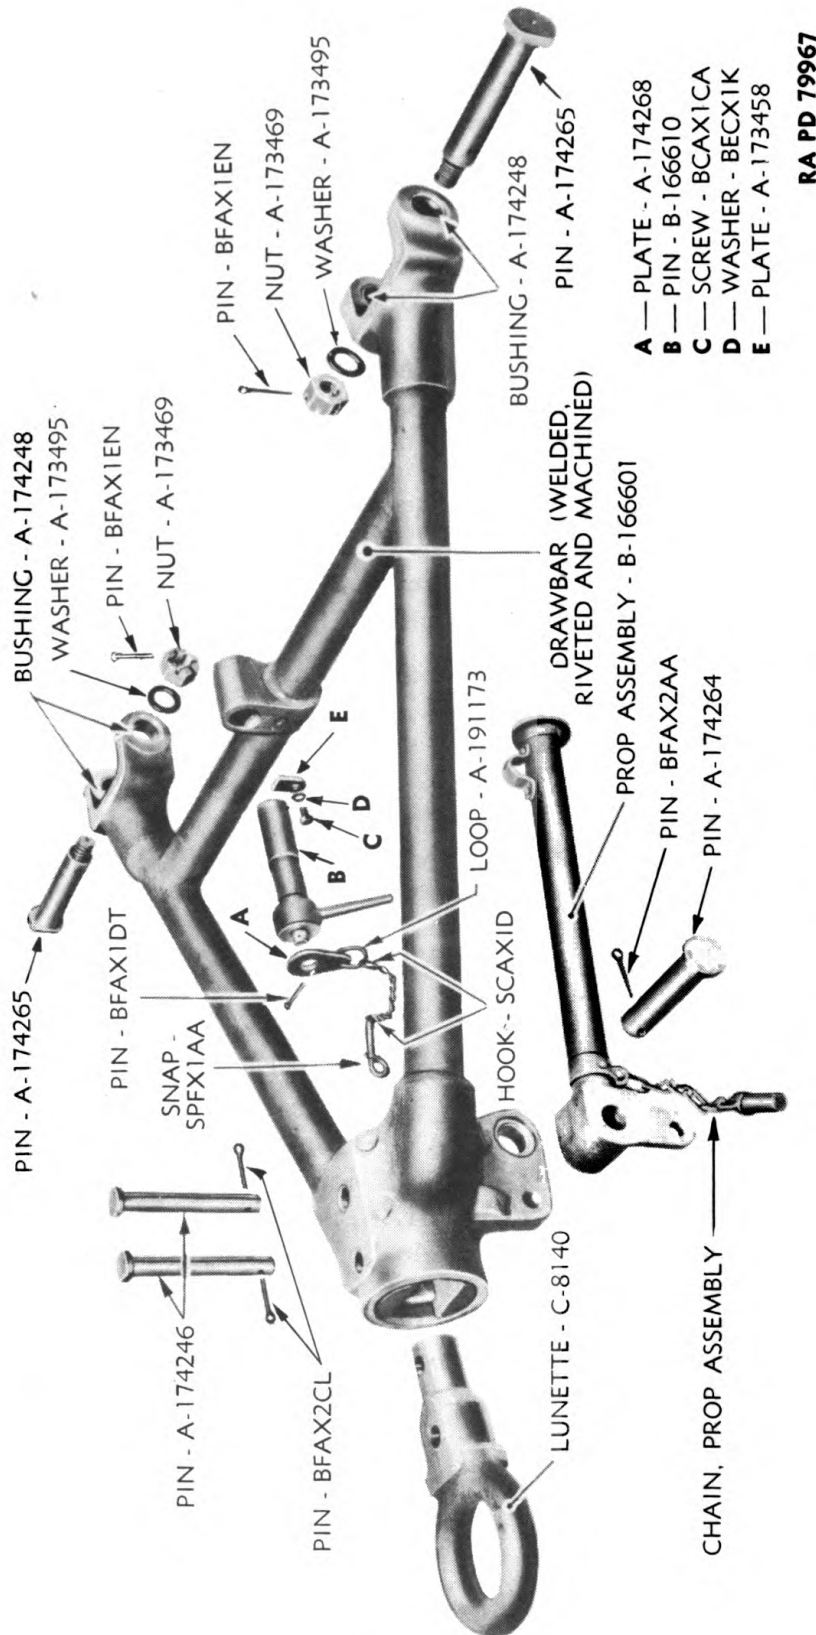
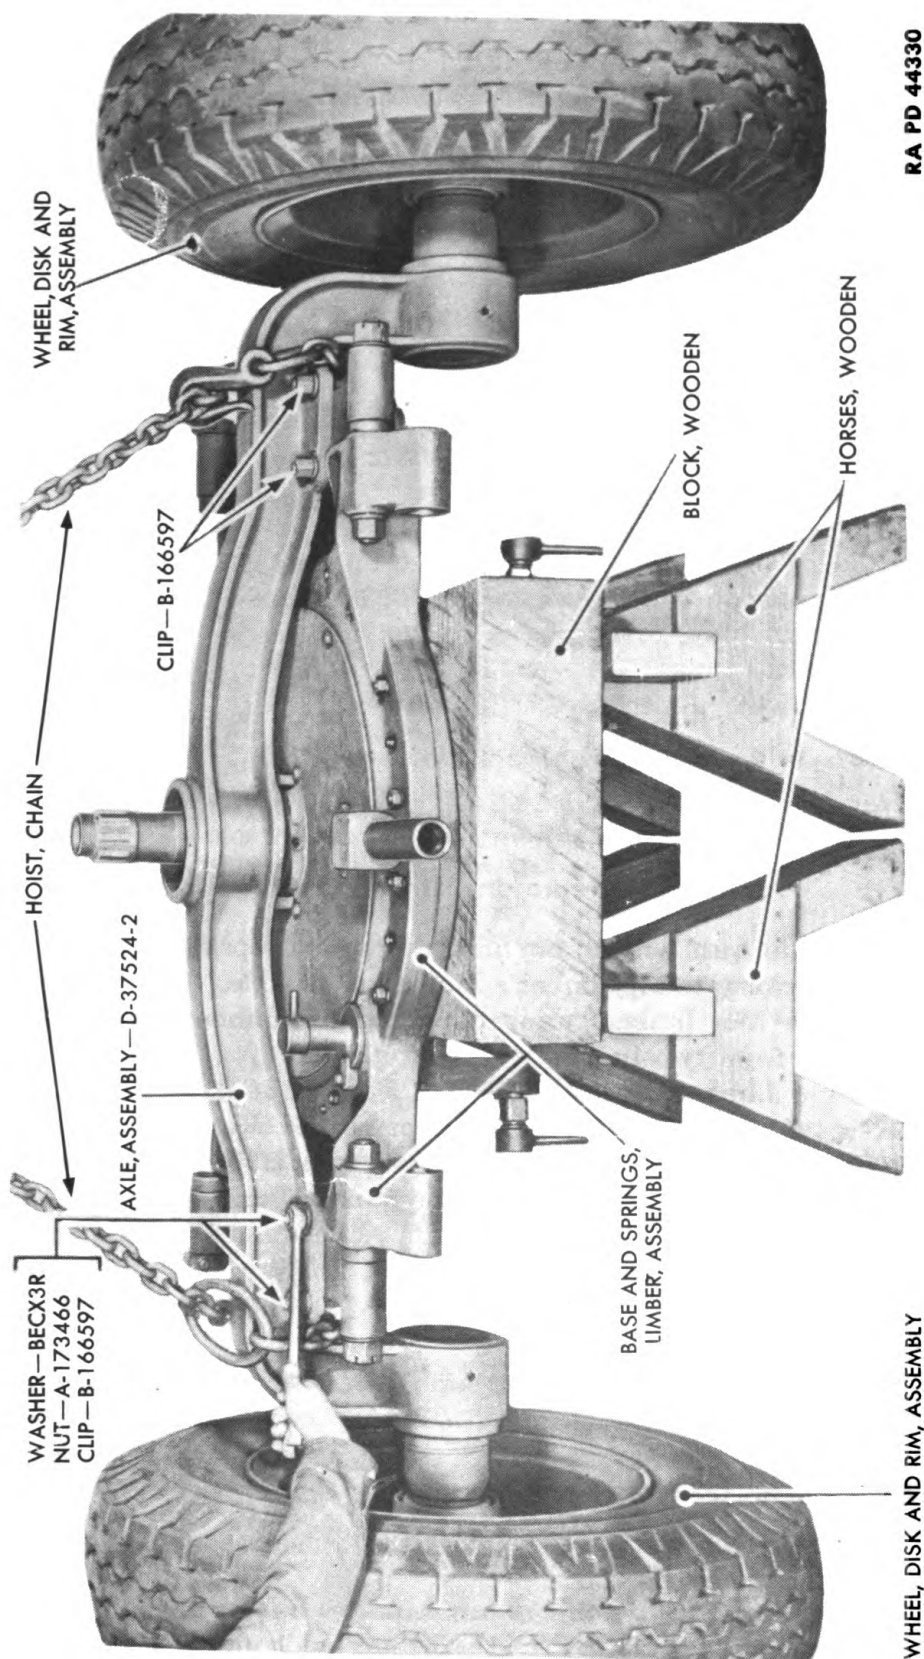

Figure 323—Drawbar Parts
Figure 324 — Removing Axle Assembly from Limber Base
(6) Hold or block the drawbar to prevent its falling and repeat operation on opposite drawbar hinge pin. **NOTE:** There are two types of drawbar hinge pins used; one is drilled for lubrication and the other is not.
(7) Lift drawbar assembly C73285 off limber base.
g. Disassemble Drawbar Assembly (fig. 323).
(1) Remove cotter pin BFAX2AA that holds prop hinge pin A174264. Drive prop hinge pin out of drawbar and lift off prop assembly B166601. **NOTE:** Prop foot piece and prop handle are riveted to prop. The chain clamp is riveted to prop, and prop chain B166609 with prop chain pin are riveted to chain clamp.
(2) Remove two cotter pins BFAX2CL that hold two lunette pins A174246 in drawbar. Drive out two lunette pins. Loosen and remove lunette C8140.
(3) Remove cap screw BCAX1CA and lock washer BECX1K that hold locking pin plate A173458 to drawbar.
(4) Remove cotter pin BFAX1DT that holds plate A174268 to drawbar locking pin B166610. Remove chain with loop, hooks SCAX1D, plate and snap SPFX1AA, as a unit. Pull drawbar locking pin out of drawbar. **NOTE:** Field Service Modification Work Order D24-W13, dated 19 July 1943, requires that attachment plate A174268 be welded to face of drawbar locking pin B166610. When this modification is effected, step (4) will be: Pull drawbar locking pin B166610 with chain and plate assembly B170642 out of drawbar.
(5) Press four bushings A174248 out of drawbar.
h. Remove Axle Assembly (fig. 324).
(1) Both wheels must be blocked and limber base supported. Attach chain hoist around axle.
(2) Remove eight nuts A173466 and lock washers BECX3R that hold limber spring clips B166597 to axle assembly D37524-2.
(1) Inspect drawbar for cracks or fractures and weld any minor breaks.
(2) Install lunette in filler (front end of drawbar) (fig. 323). Lunette must be a tight fit in filler; if it is not, replace lunette or drawbar, or both.